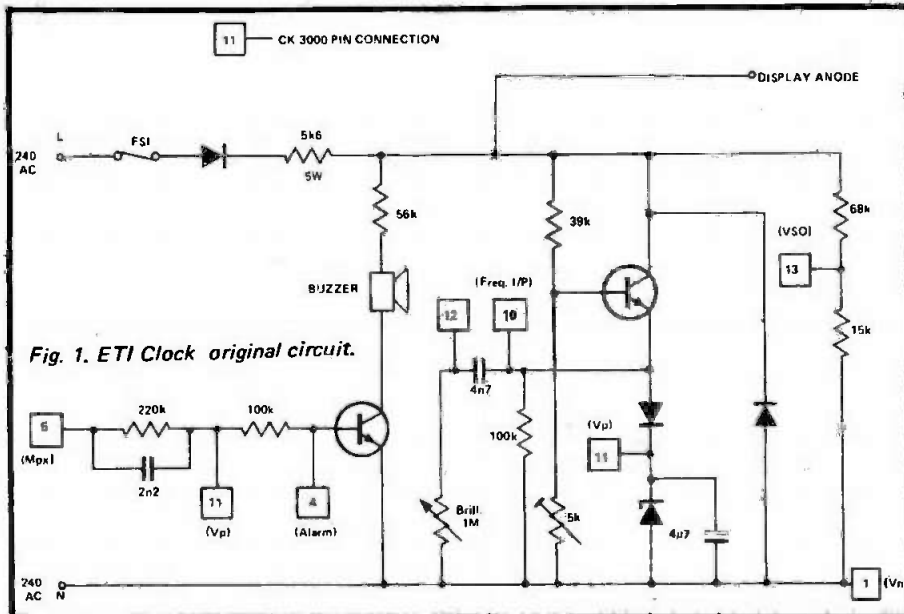

Fig. 1. ETI Clock original circuit.
Two matters which must be considered are (1) the alarm output from the CK 3000 clock chip is a pulsed audio tone, and (2), more importantly, the Pulsar uses a transformerless circuit, (Fig. 1) so that any switching output must be totally isolated from the clock circuitry.